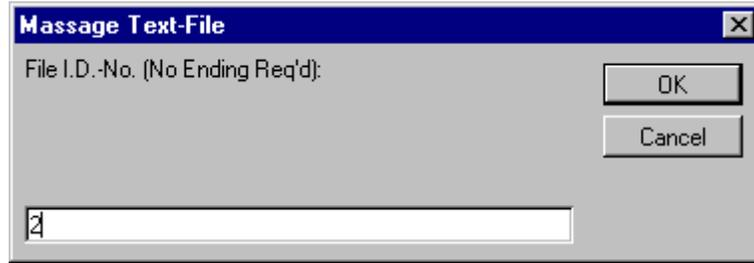

Fig. 9
- A prompt for the File Id to use as the input data will appear (see Fig. 9). Enter the file name (without the path or ending e.g. 2, or rpt) as created in step 5. Then click **OK** to have the spread sheet computed and the out of spec tests highlighted, if the **spec** data row was entered.